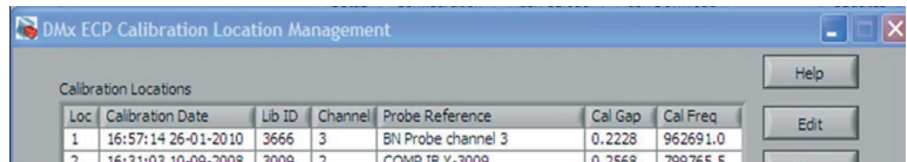

Fig. 11. DMx ECP Calibration Location Management dialog.
- 2 There is an infinite gap calibration (with correct channel, library ID and reference): **ECP Tools** tab, **Calibration Management** (→ fig. 11).